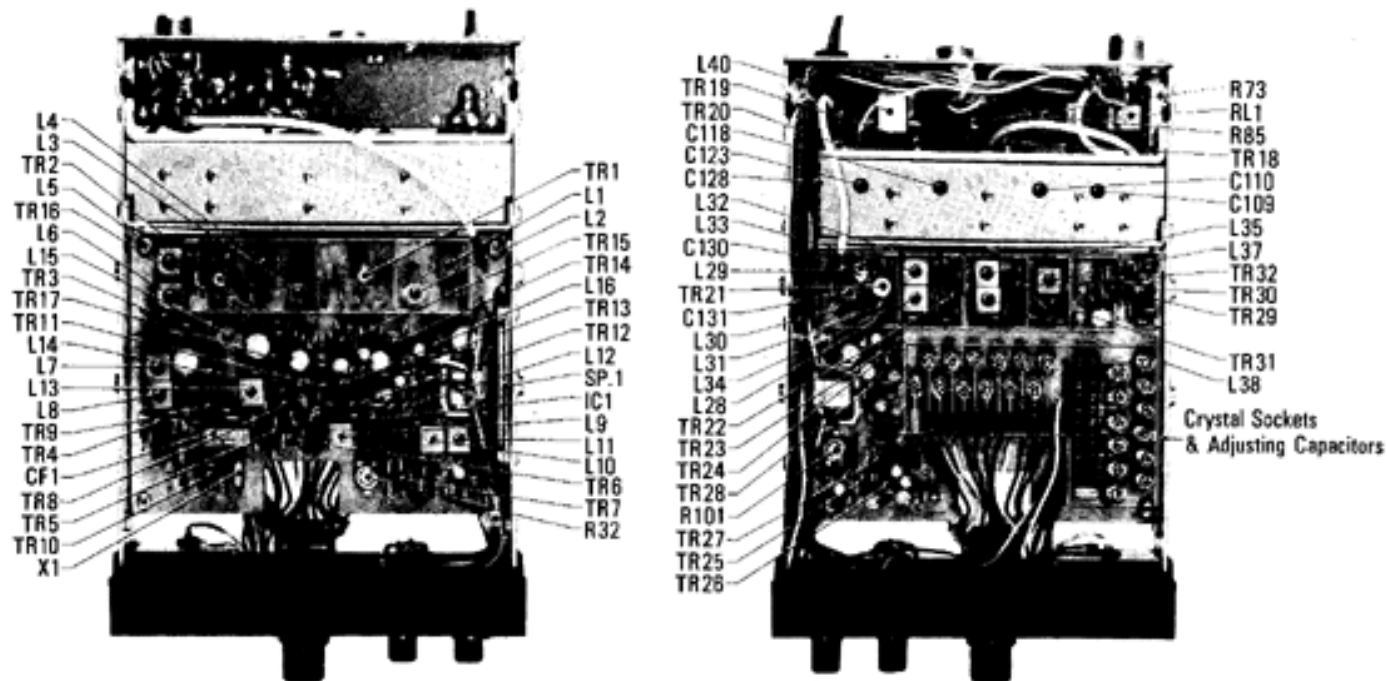

FIG. 1
Trimmers have been placed on the crystal board to assist you in adjusting new crystals on frequency. Consult the trimmer location chart (Fig. 1) for their positions.
- d. To align the transmitter on a desired frequency, switch the channel control to the desired channel. Slowly adjust the trimmer capacitor for that channel until the desired frequency is achieved. Consult Fig. 1 for the location of the proper trimmer. These trimmers should be adjusted very slowly while the transmit frequency is observed on suitable measuring equipment. Another FM-76 equipped with a discriminator meter can serve well for this purpose. However, it must be adapted. This adaptation can be accomplished by installing a 50 microampere ϕ center meter. Install the meter to accessory plug (4 pin, and ground 2 pin). With the FM-76 meter installed, in the receive mode on the channel desired, adjust the trimmer capacitor for the null point on the meter.
- e. When setting the receiver to a desired frequency, a discriminator meter should be connected to Accessory Plug and the receiver trimmer capacitors adjusted to cause the S meter to read a maximum and the discriminator meter to read zero. Refer to Fig. 1 for the location of the proper trimmer corresponding to discriminator meter.